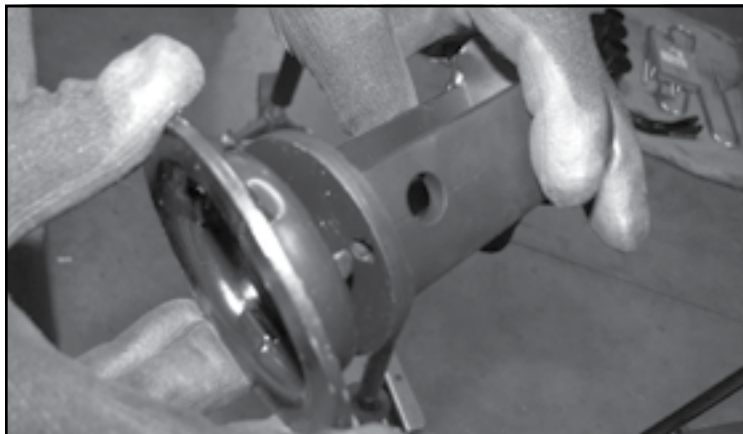

FIGURE 8 - STEP 13
13. Install FT30653 (Bump Stop Extension) onto the factory cup using the supplied 1/2" x 1-1/4" hardware and set aside. Torque to 127 ft-lbs. **SEE FIGURE 8**